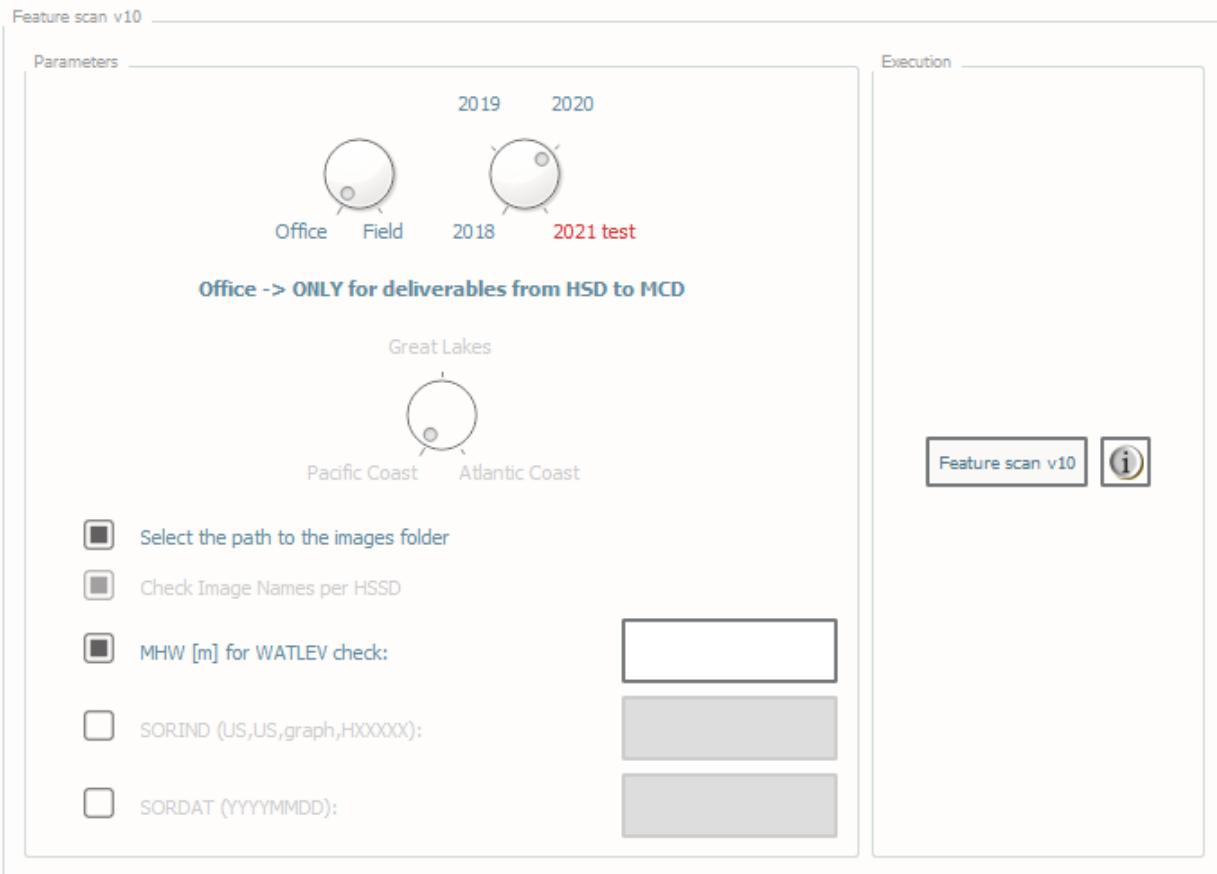

Fig. 2.42: The **Scan features** tab.
- Select the **Scan features** tab (Fig. 2.42) on the bottom of the QC Tools interface.